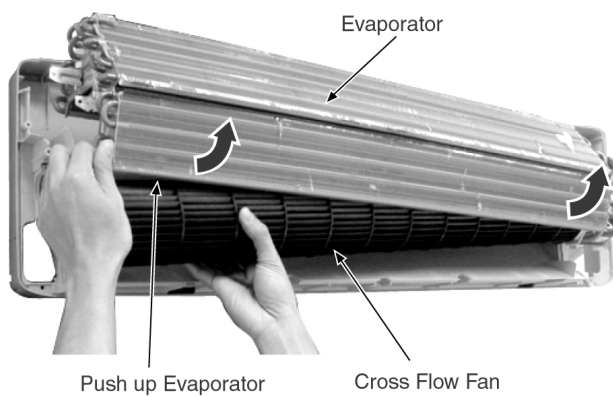

Fig. 10
8. Push up the Evaporator and pull out the Cross Flow Fan from shaft. By then, Fan Motor can be taken out. (Fig. 10).